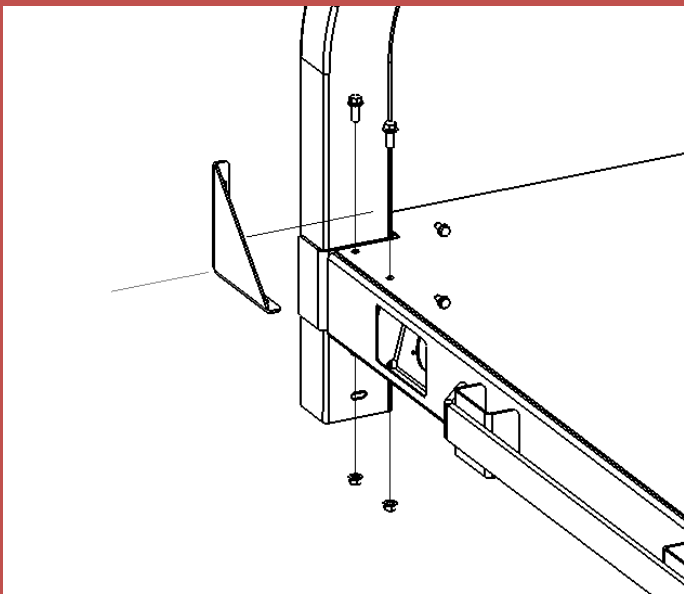

Figure 4: 84W Bulkhead Gusset Installation Bolt Alignment
- a) Position the Gusset with the slots in one flange over the predrilled holes in the flooring, and the other flange adjacent to the Bulkhead tubing as shown in Figures 4 and 5. Loosely fasten the lower flanges with (2x) 3/8-16 X 1" Grade 5 Bolts (1511135) and (2x) 3/8-16 Grade 5 Nuts (1540531).
- b) Drill two (2x) 5/16 X 3/4" Thread Cutting Screws (1642708) through the holes/slots in the Gusset flange that is adjacent to the Bulkhead tubing, into the Bulkhead tubing. Refer to Figures 4 and 5.